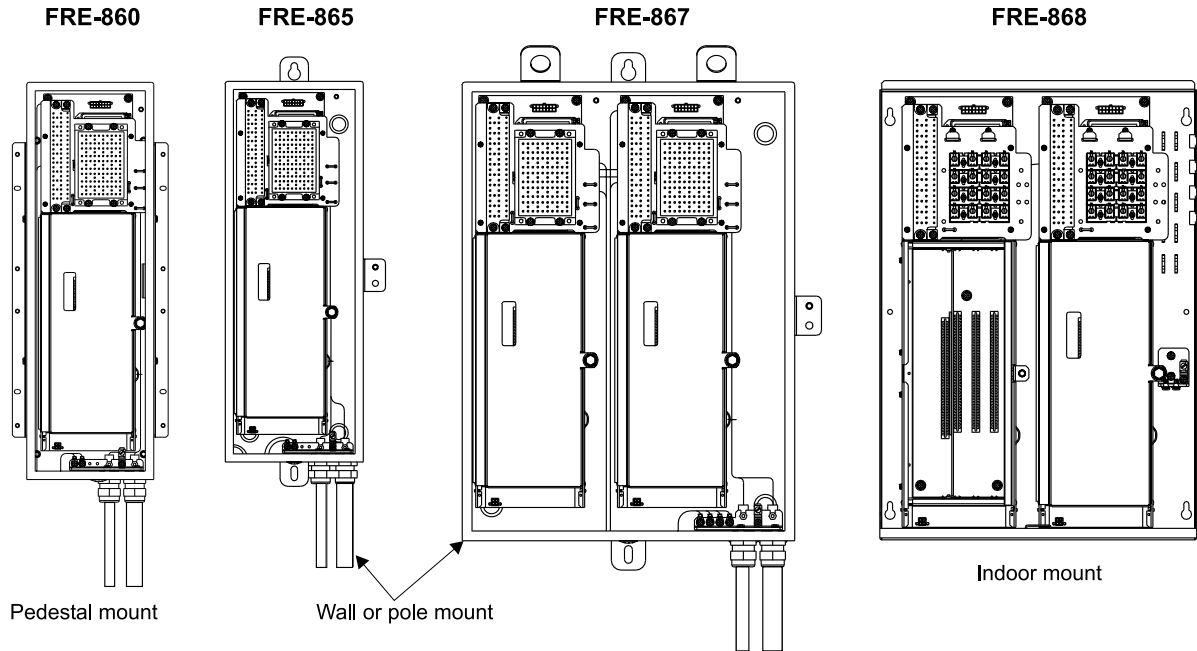

Figure 1. Internal Views of the Enclosure
The PairGain® PG-Flex® FRE-860, FRE-865, FRE-867, and FRE-868 Remote Terminal (RT) Enclosures (see Figure 1) conveniently mount RT line units (LU) and channel units (CU). The RT Enclosures provide termination points for subscriber circuits, HDSL, auxiliary power, and metallic bypass pairs.